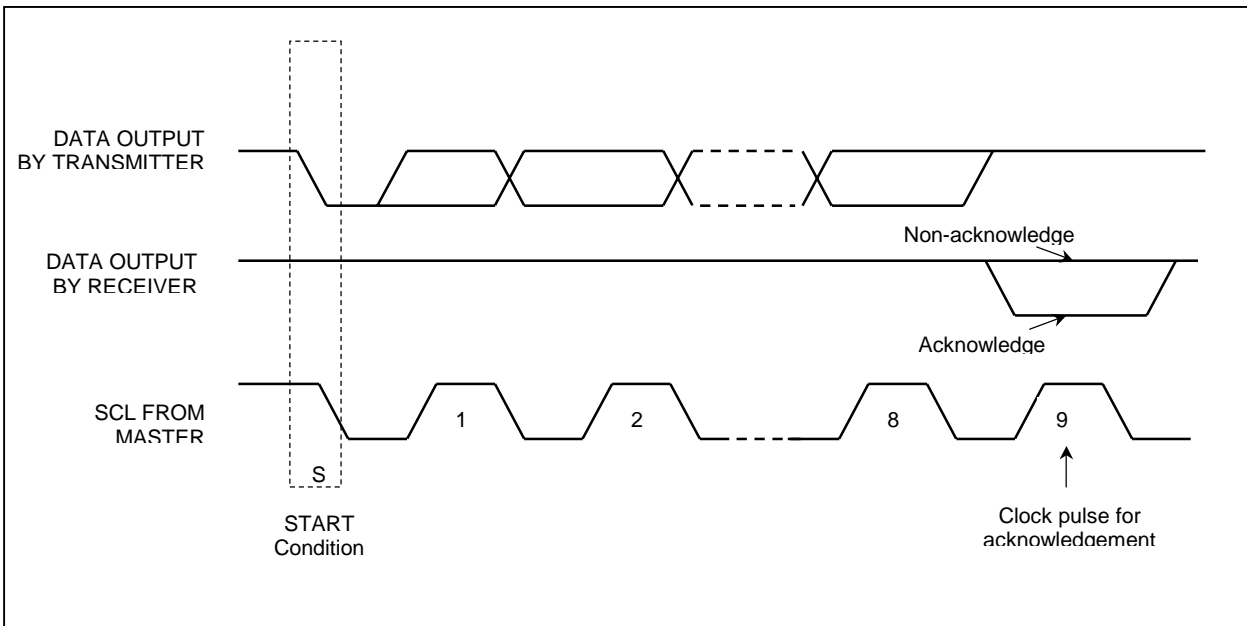

Figure 13 : Definition of the acknowledgement condition
- 4) An acknowledgement signal will be generated after receiving one byte of data, including the slave address and the R/W# bit. Please refer to the Figure 13 for the graphical representation of the acknowledge signal. The acknowledge bit is defined as the SDA line is pulled down during the high period of the acknowledgement related clock pulse.
- 4) An acknowledgement signal will be generated after sending one byte of data, including the slave address and the R/W# bit. Please refer to the Figure 13 for the graphical representation of the acknowledge signal.